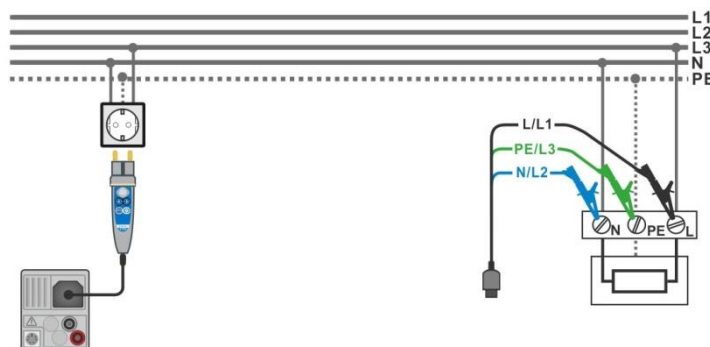

Figure 7.34: Connection of Plug commander and 3-wire test lead
- › Connect test leads or Plug commander to the object under test, see **Figure 7.34**.